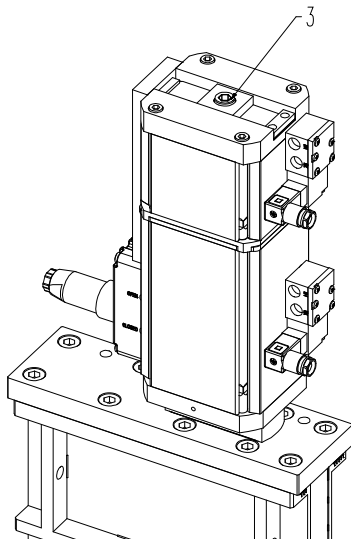

Figure 6-1
1. Activated solenoid valve (1); see «Figure 6-1» on page 16.
2. De-activated solenoid valve (2).
3. Adjust the intermediate position by turning the adjustment screw (3).